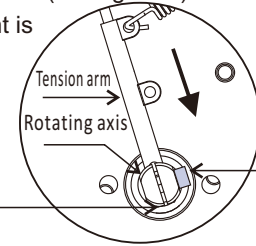

figure3
Step 2. Loosen the fastening nut on fixing base of tension arm and insert tension arm into rotating shaft(see figure3), and then tighten the nut. The end of tension arm has to be inserted at the same level with the exit of rotating axis (see dotted line in figure 3)